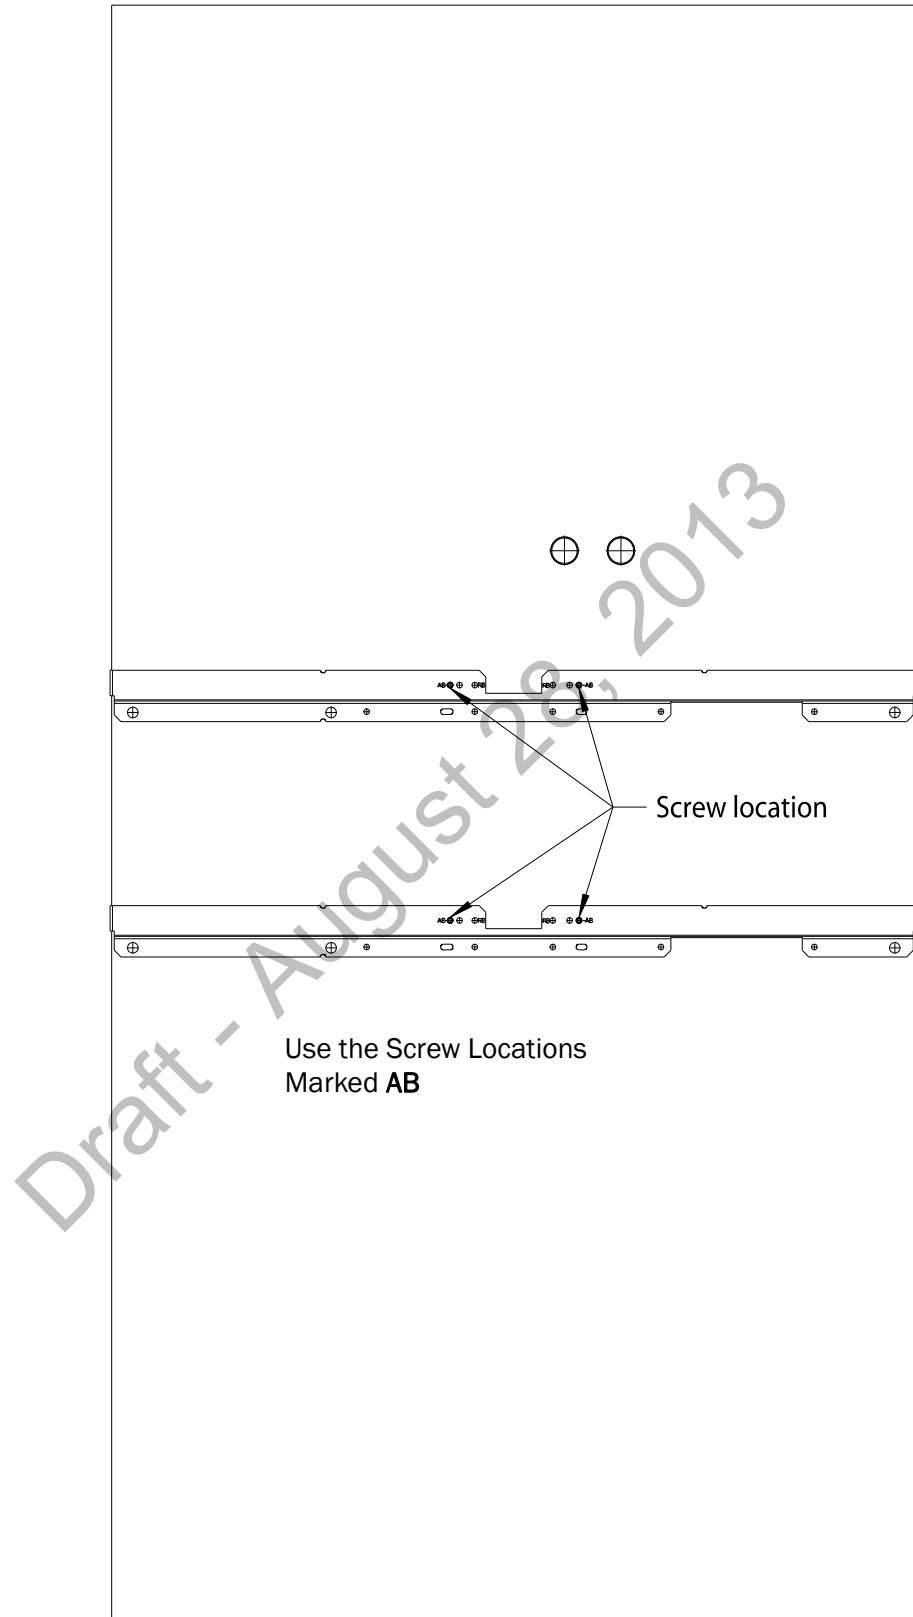

Figure 2-9: Core AP Below Ceiling Tile Mounting Rail Screw Locations
4. Mark the location of the **AB** screw holes in the mounting rails on the ceiling tile where the holes will be drilled through the tile as shown in Figure 2-9. Drill four .375-inch (10 mm) diameter holes in the ceiling tile.